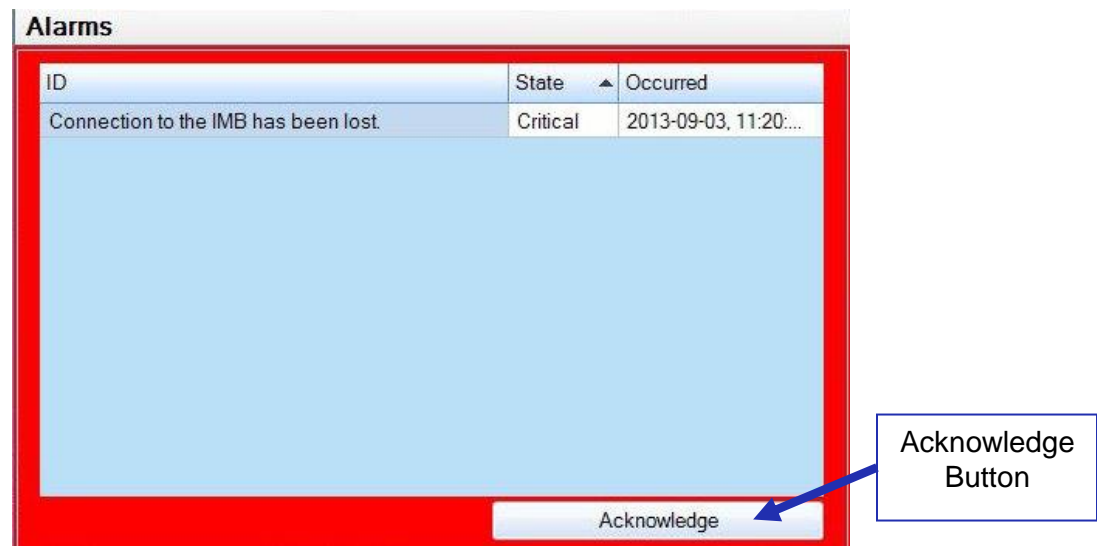

Figure 82: Error Message
- An error message will appear. Press the Acknowledge button (Figure 82).